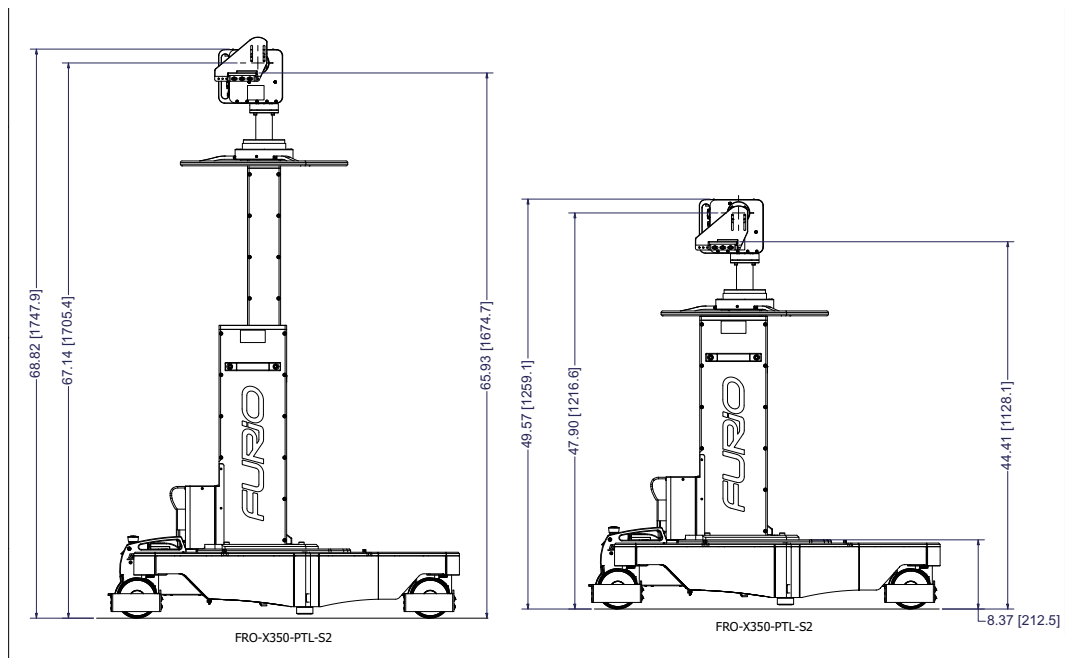

Figure 2 - Dimensions of the BlackBird S2 Pedestal with an X350 Head (side view)
- **Figure 2** - Dimensions of the BlackBird S2 Pedestal with a X350 Head